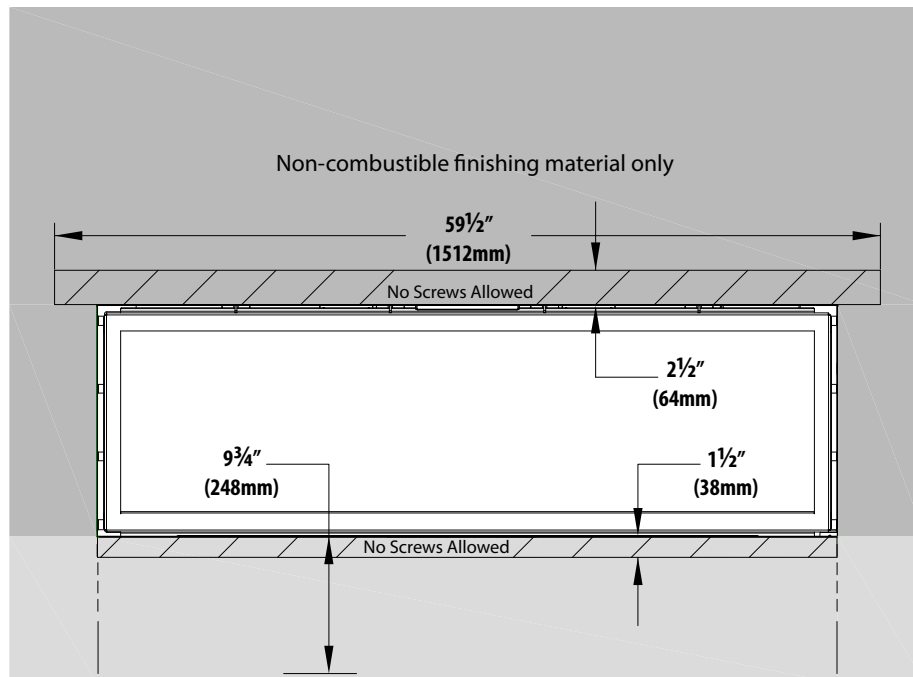
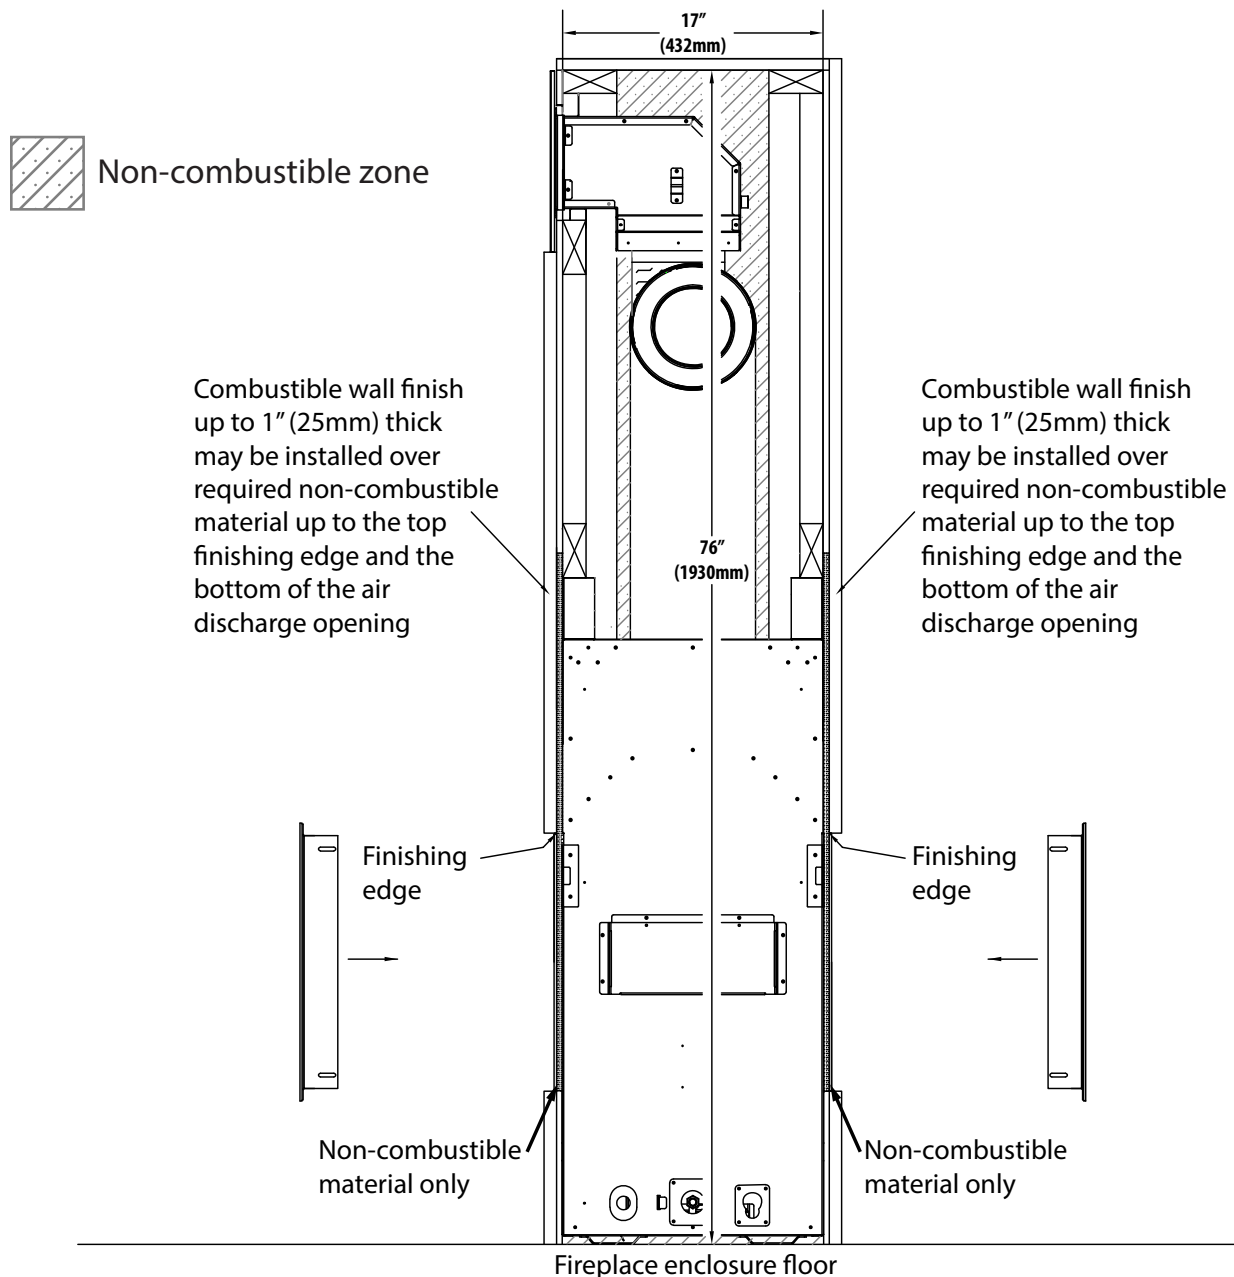

FIGURE 3.2 CLW-ST Minimum Non-combustible Finishing Dimensions
FIGURE 3.7 1" Thick Wall Finish Installation
- **FIGURE 3.7** shows installation of combustible wall finish up to 1" thick. This combustible material goes over any required non-combustible materials as shown in **FIGURE 3.2** on page 19.